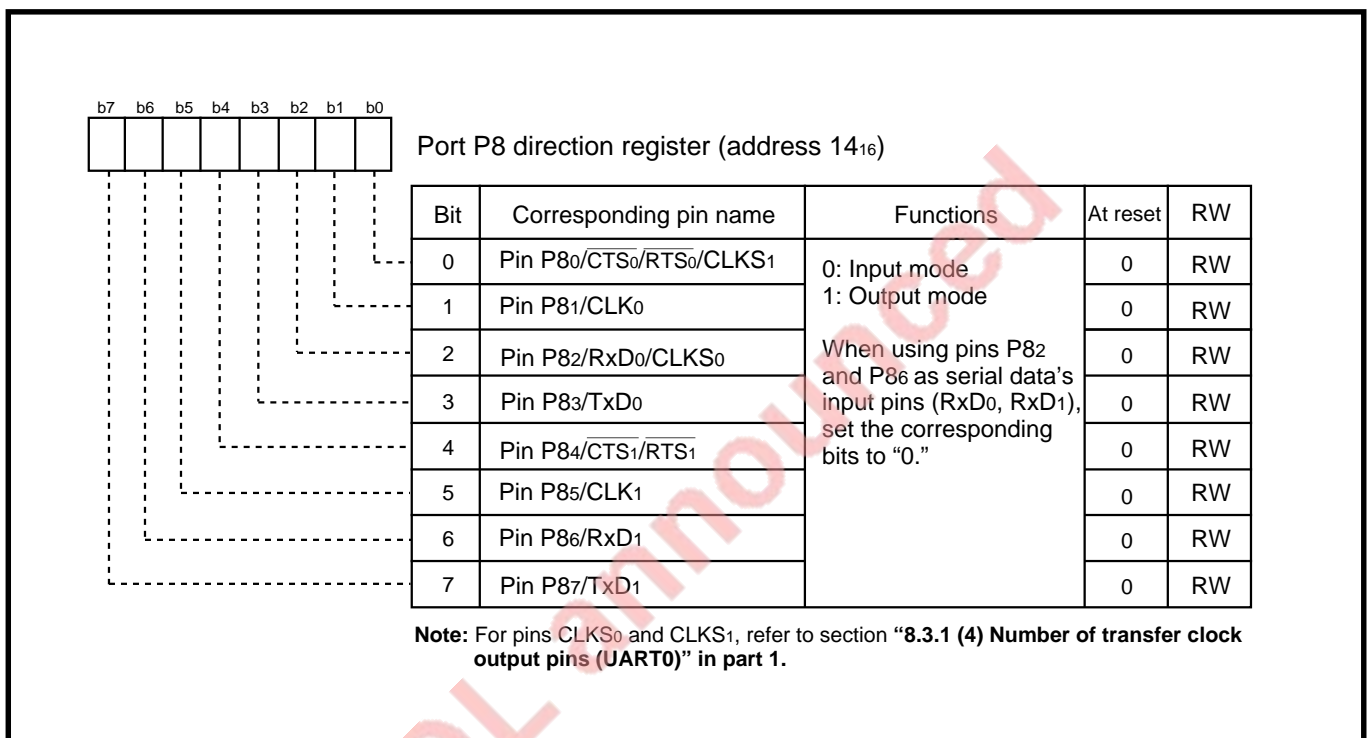

Fig. 8.2.16 Relationship between port P8 direction register and UARTi's I/O pins
I/O pins of UARTi are multiplexed with ports P8 and P9. When using pins P82 and P86 as serial data input pins (RxDi), set the corresponding bits of the port P8 direction register to “0” to set this port for the input mode. When using pins P80, P81, P83–P85 and P87 as UARTi's I/O pins (CTSi/RTSi, CLKi, TxDi), these pins are forcibly set as the UARTi's I/O pins, regardless of the port P8 direction register's contents. Also, as for CLKS0 and CLKS1, refer to section “8.3.1 (4) Number of transfer clock output pins (UART0)” in part 1. Figure 8.2.16 shows the relationship between the port P8 direction register and UARTi's I/O pins.